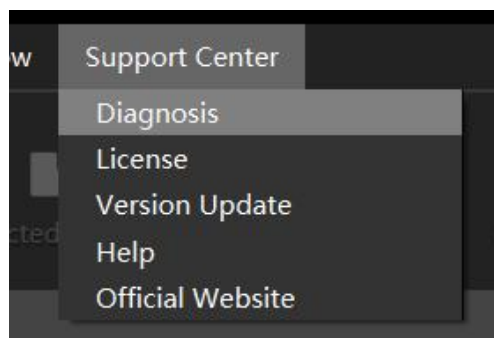

Figure 5-1 Diagnosis Button
1. Click the Help button at menu bar, and Diagnosis from the drop-down list, as shown in Figure 5-1.